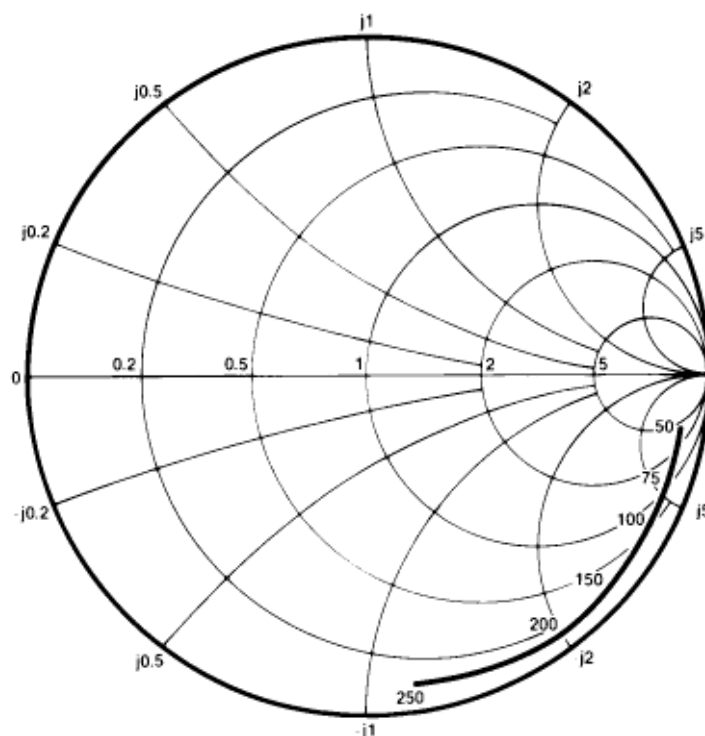

Figure 5 : Typical impedance. Test conditions: supply voltage 5.2V, ambient temperature 25°C, frequencies in MHz, impedance normalised to 50 ohms.
5. Input impedance is a function of frequency. See Fig.5.